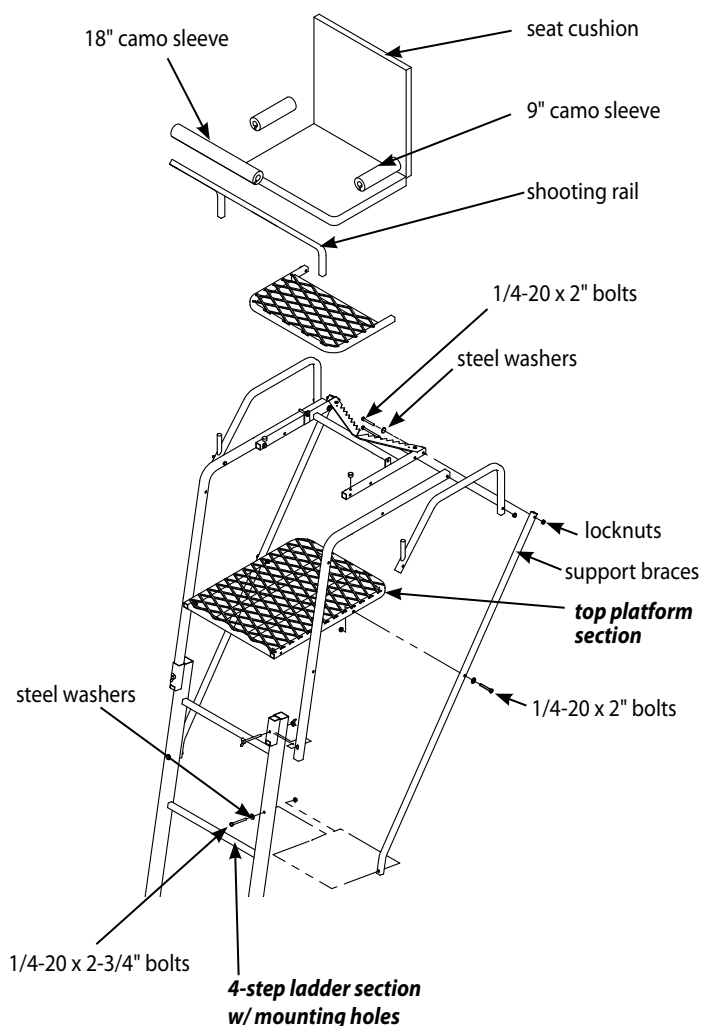

Figure 4
5. Attach the (2) brace supports (48055) to the rear holes of tree blade frame and foot platform using (4) provided 1/4-20 x 2" bolts, locknuts and steel washers. **SEE FIGURE 4.**
6. Insert the assembled top platform section into the pockets of top ladder section with mounting holes (SL74). Attach the (2) support braces to the back side of top ladder section using (2) provided 1/4-20 x 2-3/4" bolts, locknuts and steel washers. **SEE FIGURE 4. You must now tighten all nut & bolt assemblies. Be sure not to over tighten or crush tubing when tightening!**
- a. Attach the shooting rail (SR10) by setting rail down over studs on armrests. **SEE FIGURE 4.** Lubrication is recommended to prevent binding and noise.
- b. Attach the (2) provided 9" camo sleeves to the armrests and the (1) 18" camo sleeve to the shooting rail by wrapping around metal tubing and attaching Velcro together.
- c. Tap the (2) provided plastic end caps into top end of top ladder section using a rubber mallet.
9. The remaining (3) ladder sections are assembled to the top ladder assembly on the ground in the following order: bottom section (SL71 ladder); second section (SL72 ladder); third section (SL73 ladder); top section (assembled top, platform section). **SEE FINISHED 20' LUMBERJACK EXTREME LADDER.**